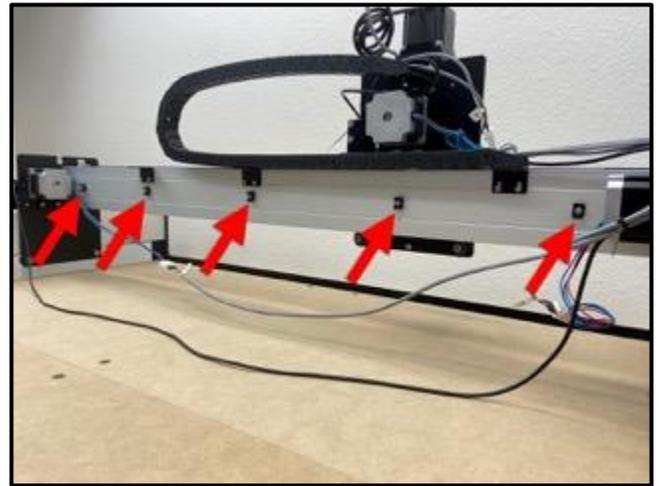

Figure 9-5
1. Use the 3mm hex key and one (1) M4x6mm socket head cap screw to attach each of the five (5) cable tie mounts to the upper M4 screw holes across the back of the X-rail. Position the cable tie mounts vertically. See *Figure 9-5*.